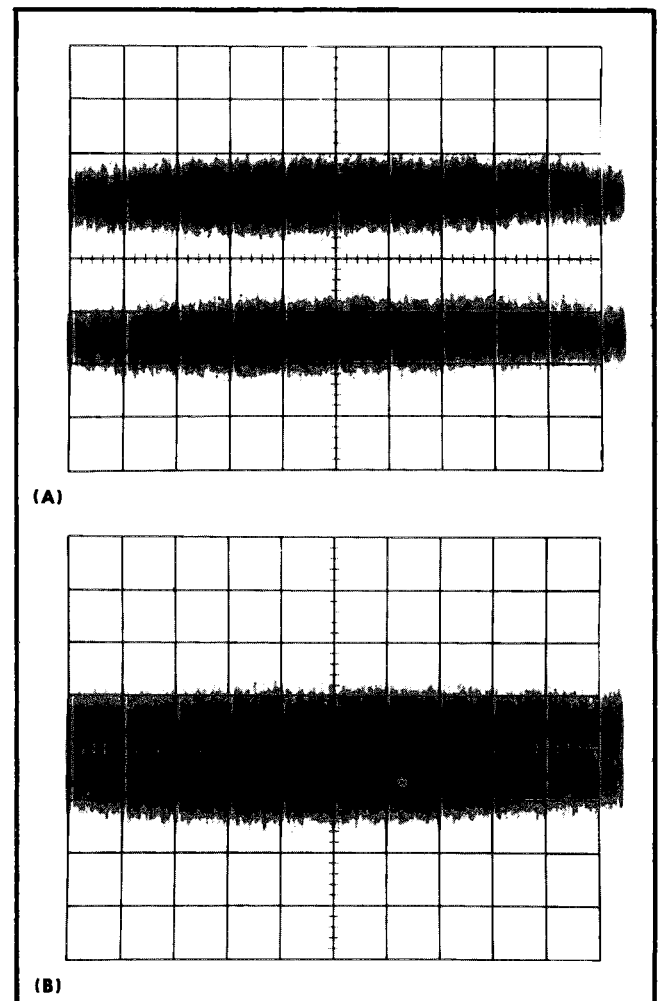

Fig. 5-10. Typical display showing (A) two noise bands and (B) merging noise bands.
- h. Turn the Variable Attenuator counterclockwise until the darker band between the two noise bands just disappears (see Fig. 5-10).